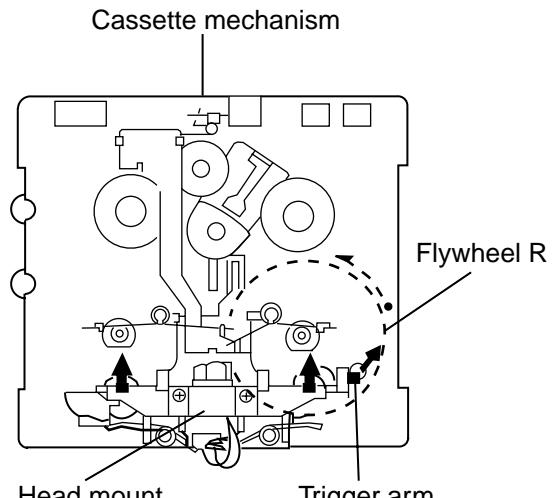

Fig. 1 (Mechanism A side)
### ■ Removing the Playback, Recording and Eraser Heads (See Fig.1~3)
1. While shifting the trigger arms seen on the right side of the head mount in the arrow direction, turn the flywheel R in counterclockwise direction until the head mount has gone out with a click (See Fig. 1).